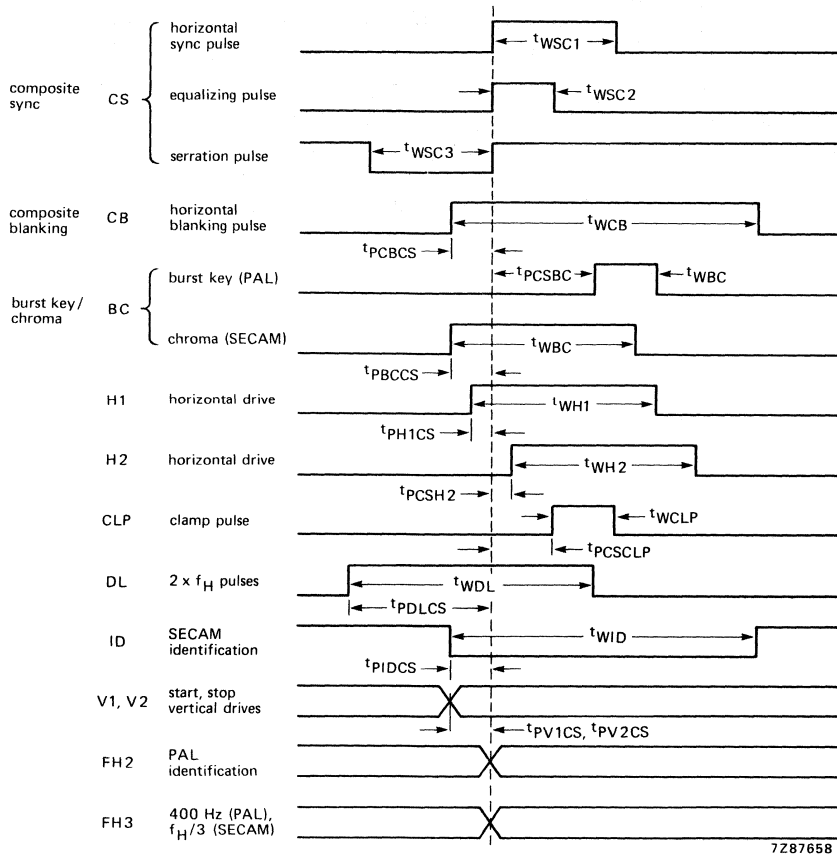

Fig. 9 Waveform timings: PAL/CCIR; SECAM; 624-line modes.
**WAVEFORM TIMING** (Table 3, Figs 9 and 10)